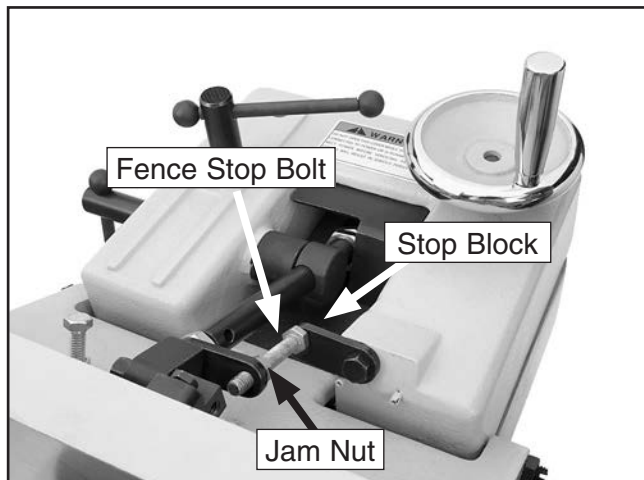

Figure 64. 90° stop block engaged.
2. Flip the 90° stop block into the position shown in **Figure 64**.
3. Loosen the jam nut on the 90° fence stop bolt (**Figure 64**).